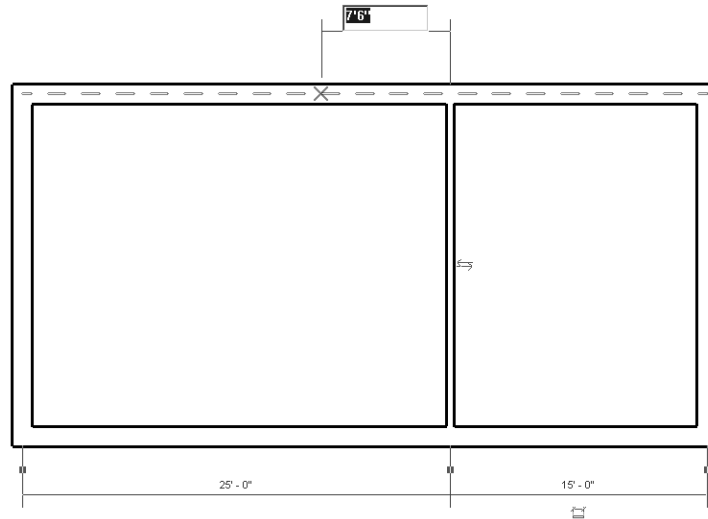

Figure 3-54 Specifying the starting point of the second interior wall
- To sketch the second interior wall, move the cursor to the upper endpoint of the interior wall you just created and then move the cursor horizontally toward the left. Enter **7'6"**, when the temporary dimension and the intersection object snap appears, as shown in Figure 3-54. Now, press ENTER; the start point of the second interior wall segment is specified on the upper horizontal exterior wall.